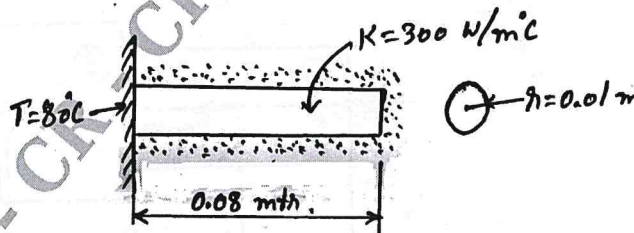

Fig Q7(a)
- 7 a. Calculate the temperature distribution in a 1-D fin with the physical properties given in Fig Q7(a). There is a uniform generation of heat inside the wall of  $Q = 400\text{W/m}^3$ .